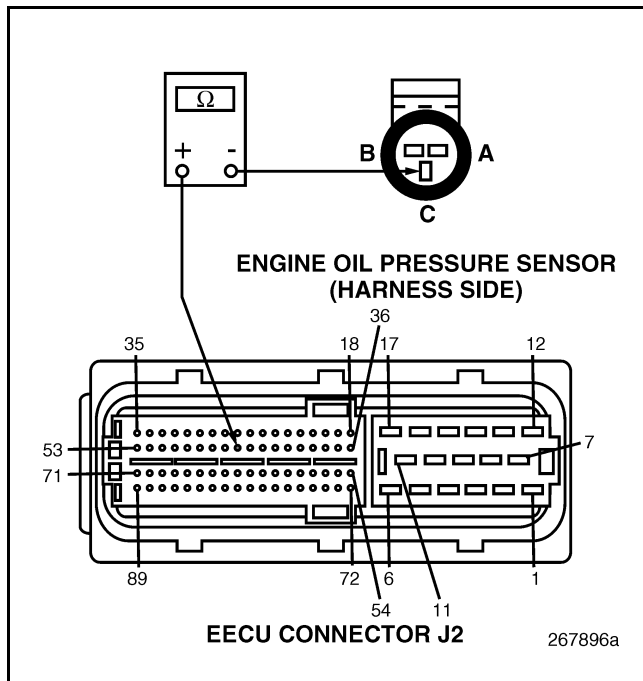

Figure 31
4. Check for continuity between EOP sensor harness connector pin C (signal line) and EECU harness connector J2 pin 35 (see Figure 31).